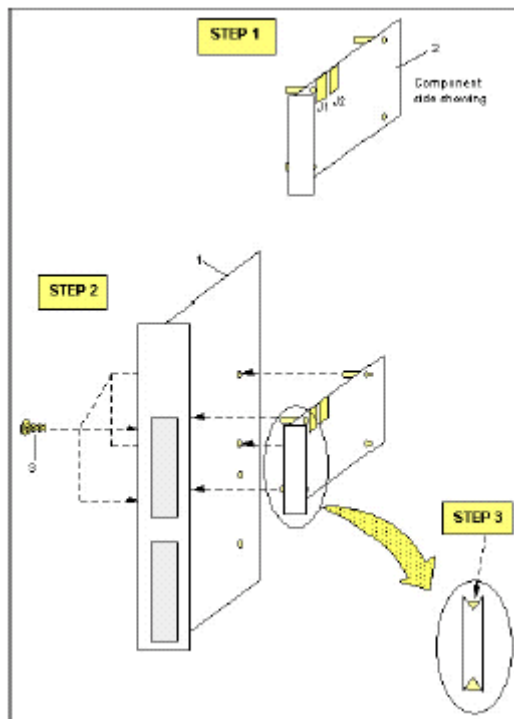

Figure 4 – Mounting SCSI Board to Motorola Board
2. SCSI board should already have 4 standoffs mounted as illustrated in Figure 4 below.